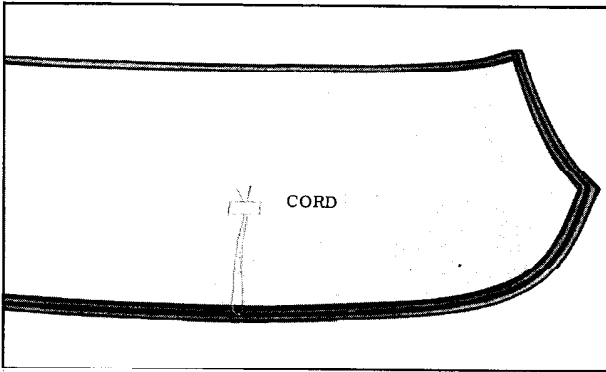

Fig. 17-9 Cord Installation
3. Install a strong cord in pinchweld cavity of rubber channel completely around windshield. Tie ends of cord and tape to inside surface of glass at bottom center of glass. (Fig. 17-9)